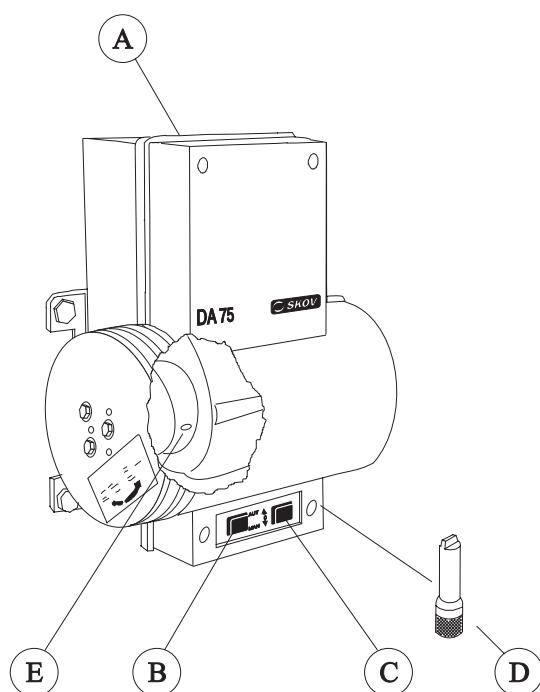

Fig. 1 Operation
CL 75A should be mounted vertically or horizontally on the wall. At horizontal mounting the shaft should turn down in order to avoid water penetration. In countries with a hot climate it should be avoided that the sun shines directly on CL 75A. 3 or 4 pcs. of 10 mm through-bolts should be used to secure the unit. Above the unit, (A) on Fig. 1, sufficient space should be left free for an emergency opening crank or a battery-operated drilling machine to operate the motor, should emergency opening be required. The wires can be led in any direction, also through the wall. The wires should be wound on to the wire wheel in order to obtain the correct pulling or slackening length.
Relieve the wires and loosen the screw (E) Fig. 1. Now the complete wire wheel can be removed from the shaft. Take care that the wires do not come off the wire tracks and that the slot (piece of metal) does not fall out of the groove of the shaft. Take out the circuit board, see above. Remove the 4 bolts by which the gear is secured to the housing. If the new motor is not provided with noise capacitor (M), transfer the noise capacitor (M) from the defective to the new motor, before mounting it. Demount the the motor lid with the screw (N). Loosen the screws (P) and pull out the two wires. Mount the noise capacitor (M) on the new motor. Mount the new motor in reverse order. Prior to remounting the wire wheel, set the key-way of the shaft to its previous position (as for CL 75A-3 the shaft should also be adjusted to the correct turn, compare with the plastic gear wheels on the opposite side).